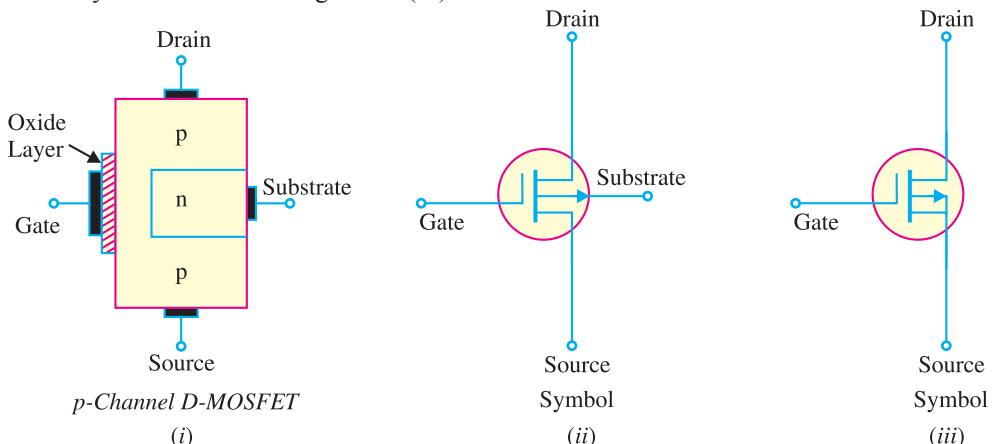

Fig. 19.46
**(ii) *p*-channel D-MOSFET.** Fig. 19.46 (i) shows the various parts of *p*-channel D-MOSFET. The *n*-type substrate constricts the channel between the source and drain so that only a small passage remains at the left side. The conduction takes place by the flow of holes from source to drain through this narrow channel. The symbol for *p*-channel D-MOSFET is shown in Fig. 19.46 (ii). It is a usual practice to connect the substrate to source internally. This results in a three-terminal device whose schematic symbol is shown in Fig. 19.46 (iii).